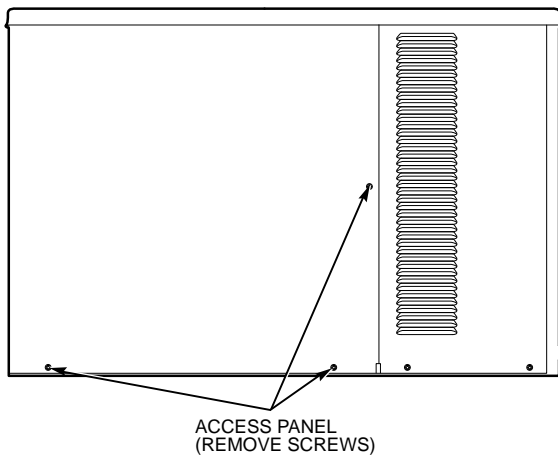

Fig. 15 — Evaporator Coil Access Panel
2. Remove evaporator coil access panel (Fig. 15).